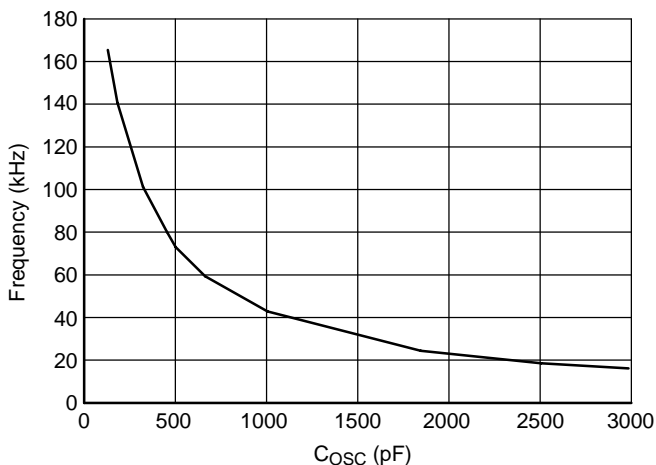

Figure 5. Oscillator Frequency (kHz) vs. C_{OSC} (pF), Assuming $R_{BIAS} = 64.9 \text{ k}\Omega$
| Switching Frequency | Refer to Figure 5 | 80 | 95 | 110 | kHz |
| Max Switching Frequency | $V_{SW} = 7.5\text{ V}$ with $50\text{ }\Omega$ Load, Refer to Figure 5 | 120 | – | – | kHz |
| 13 | C_{OSC} | A capacitor connected to GND sets the switching frequency. Refer to Figure 5. |
1. Refer to Figure 5 to determine oscillator frequency.
Choose C_{OSC} based on the target oscillator frequency with an external resistor value, $R_{BIAS} = 64.9 \text{ k}\Omega$. (See Figure 5).